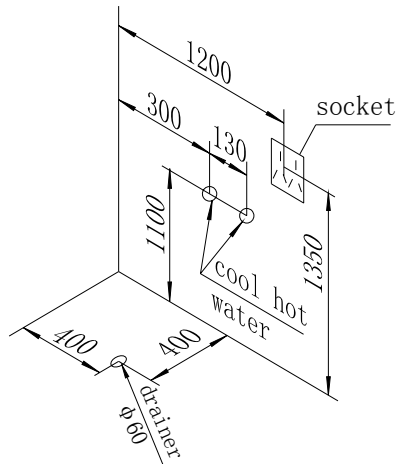

Fig. 1
- 1) User firstly should install inlet tubes for cold and hot water, and install the drain pipe, three-hole socket etc, according to the request of operation instructions. As fig. 1